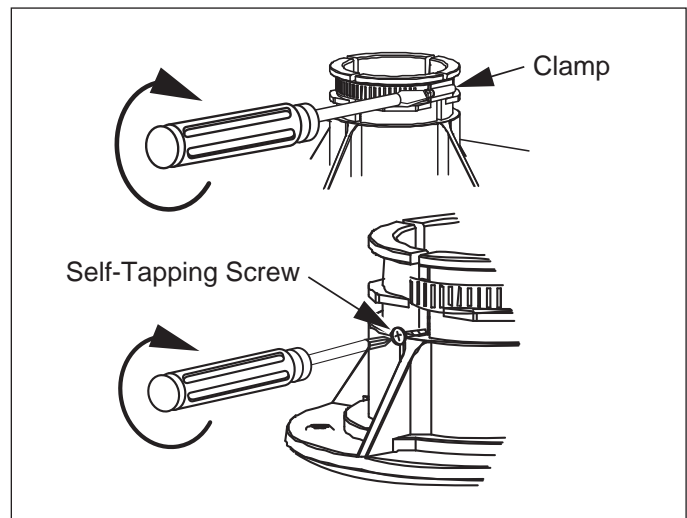

Figure 15 - Secure Venting
- 2** Use a Phillips screwdriver to tighten the clamps (Figure 15).
- 3** Use the specified self-tapping screws to secure the venting to the intake and exhaust ports (Figure 15).